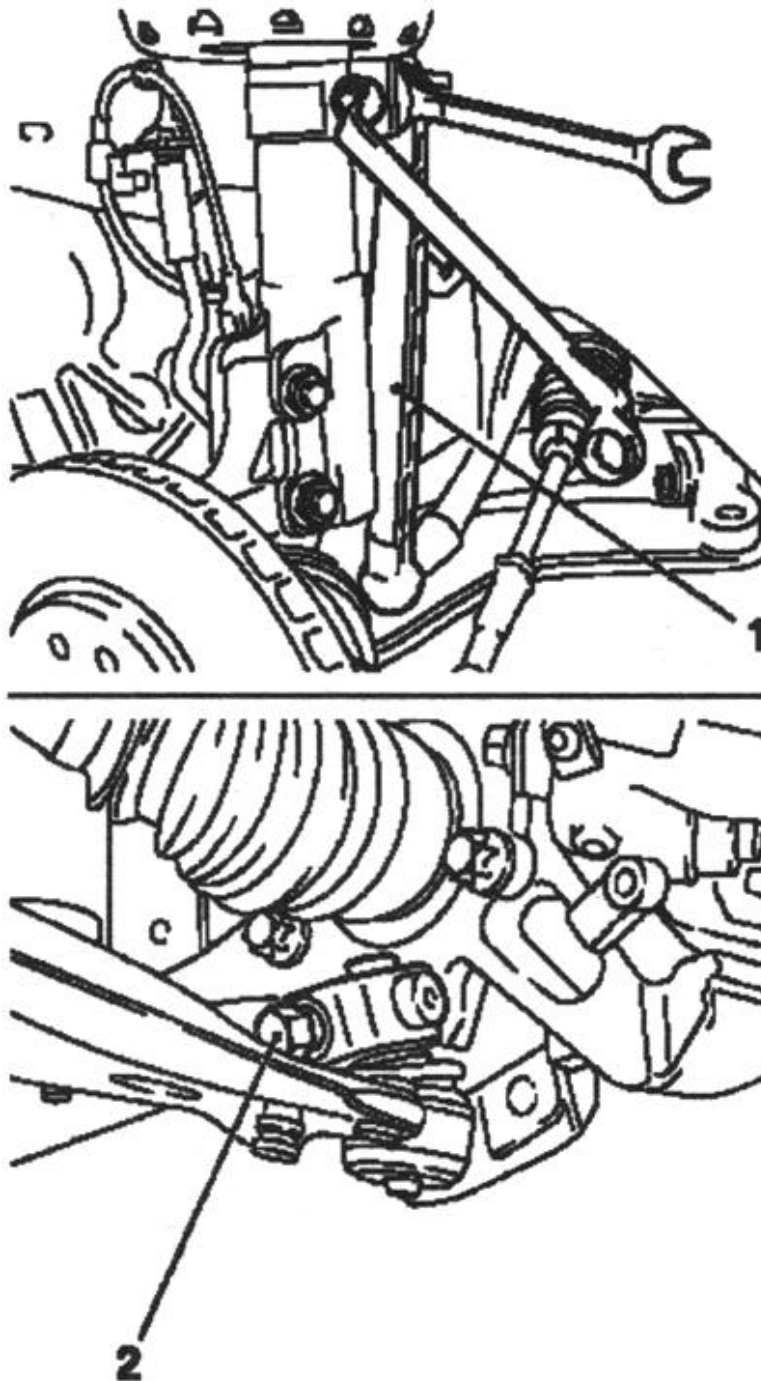

Fig. 3.104. Disconnecting rotary lever from supporting pipe pru-zhinnoy Rack:
Disconnect the swivel lever (1) of the supporting spring tube rack (Fig. 3.104).
Take the steering knuckle using special tool KM 915 (Fig. 3.104).